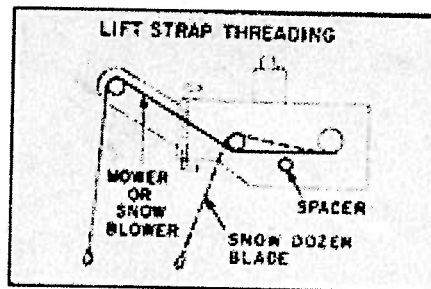

Figure 4
- 5. Thread lift strap over rear roller and attach to lift clevis. See Fig. 4.